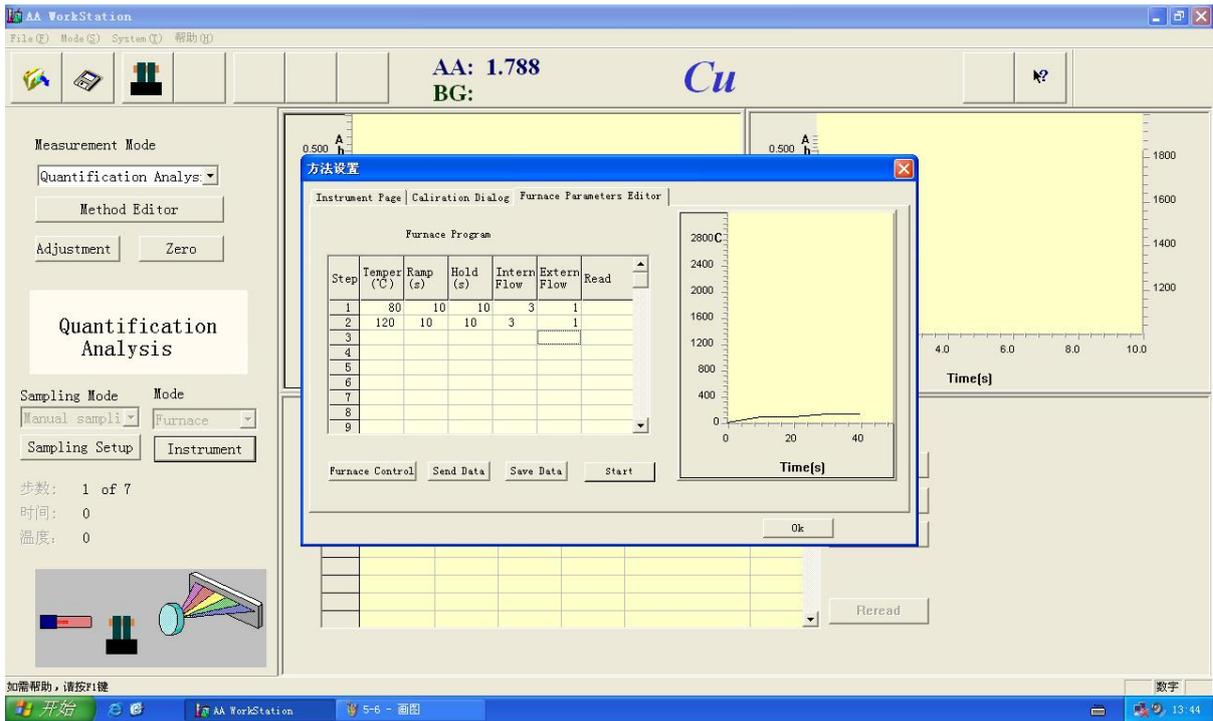

Figure 5-20
9. Input the No.2 program, see Figure 5-20